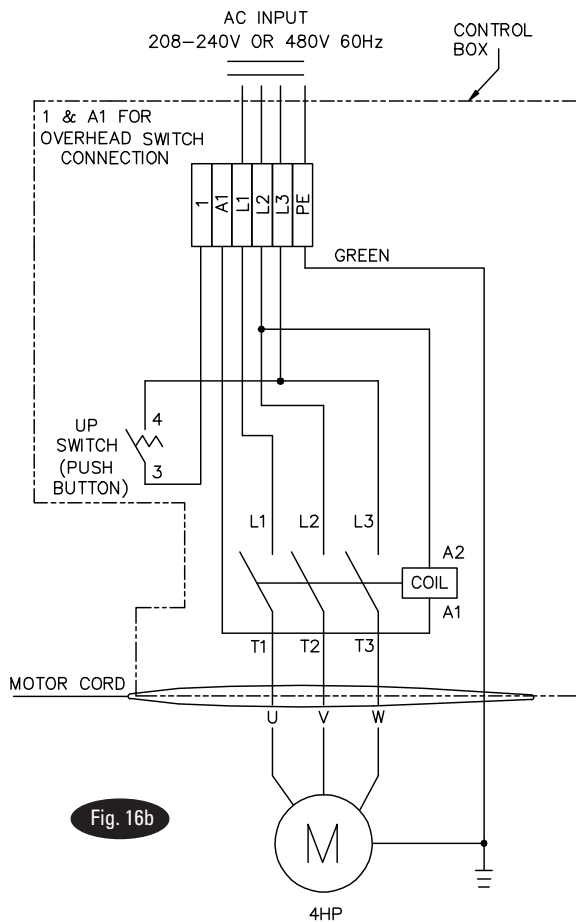

Fig. 16b
**IMPORTANT:** Use separate circuit for each power unit. Protect each circuit with time delay fuse or circuit breaker. For single phase 208-230V, use 20 amp fuse. For single phase 4HP motor use 30 amp fuse. Three phase 208-240V, use 20 amp fuse. For three phase 400V and above, use 10 amp fuse. For wiring see Fig. 15 and Fig.16b. All wiring must comply with NEC and all local electrical codes.
**16. Overhead switch:** Check overhead switch assembly to assure that switch bar is depressing switch plunger sufficiently to actuate the switch. The overhead switch is wired normally open, see Fig. 15, Fig. 16, and Fig. 16b. Lift will not operate until weight of switch bar is depressing switch plunger. Verify that Power Unit stops working when switch bar is raised, and restarts when the bar is released.